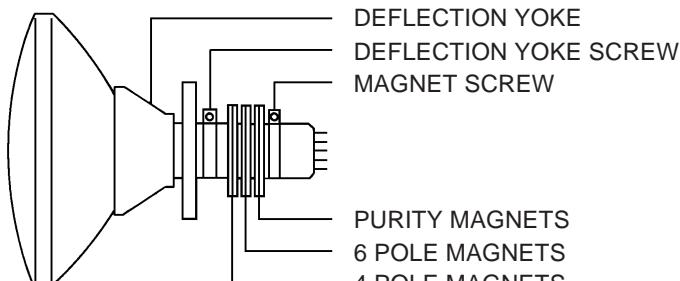

Fig. 5-1
1. Tighten the screw for the magnet. Refer to the adjusted CRT for the position. (**Refer to Fig. 5-1**)